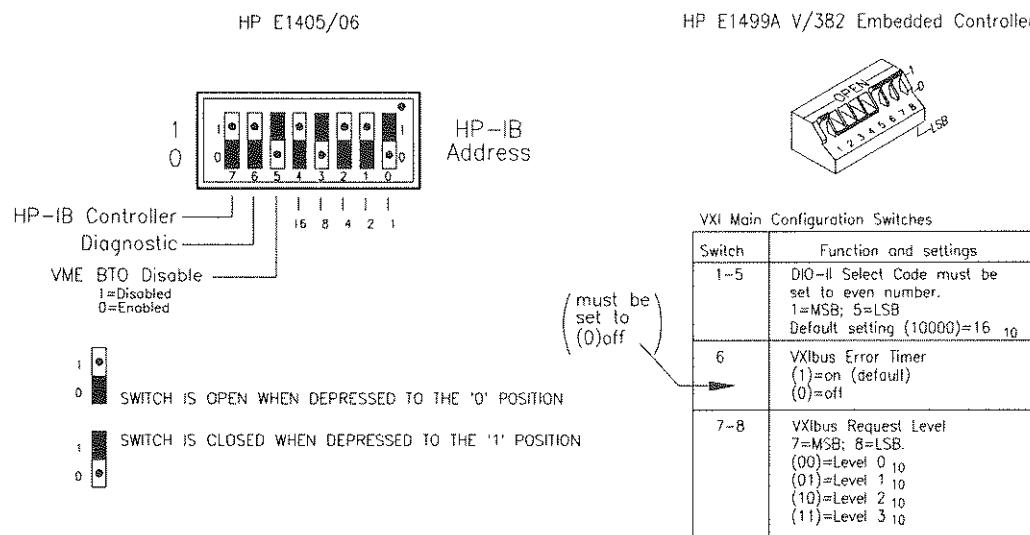

Figure 14. Disabling Data Transfer Bus Timer Capability
When E1482 VXI-MXI mainframe extender modules are part of your system, the modules must function as the Data Transfer Bus (DTB) timer. This means the bus timer capability of the Command Module or V/382 controller must be disabled. This is done by setting the 'VME BTO Disable' switch (Command Module) or 'VXIbus Error Timer' switch (V/382) as indicated in Figure 14. The VMEbus timer capability (VME BTO Level) of the E1482 is enabled at the factory.
- The VXI-MXI module must do the (data transfer) bus arbitration. This functionality must be disabled on the resource manager/slot 0 device. Figure 14 shows how this is disabled on the HP E1406/05 Command Module and on the V/382 embedded controller.